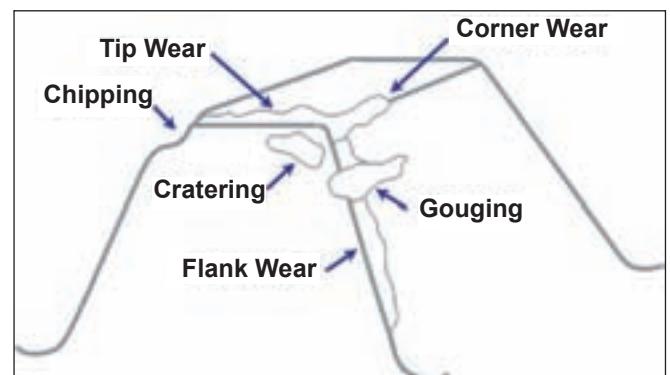

Figure 10—Types of hob tool wear.
**Wear basics.** Figure 10 identifies the basic types of hob wear. Tip and flank wear are normal, and eventually the wear will break through the coating and abrade the substrate material of the hob. Cratering on the face of the hob can also occur, and the tool can fail if the crater becomes too large and extends to the cutting edge of the tool. See the appendix at the end of this paper for actual photos of the different types of wear (Ref. 10).